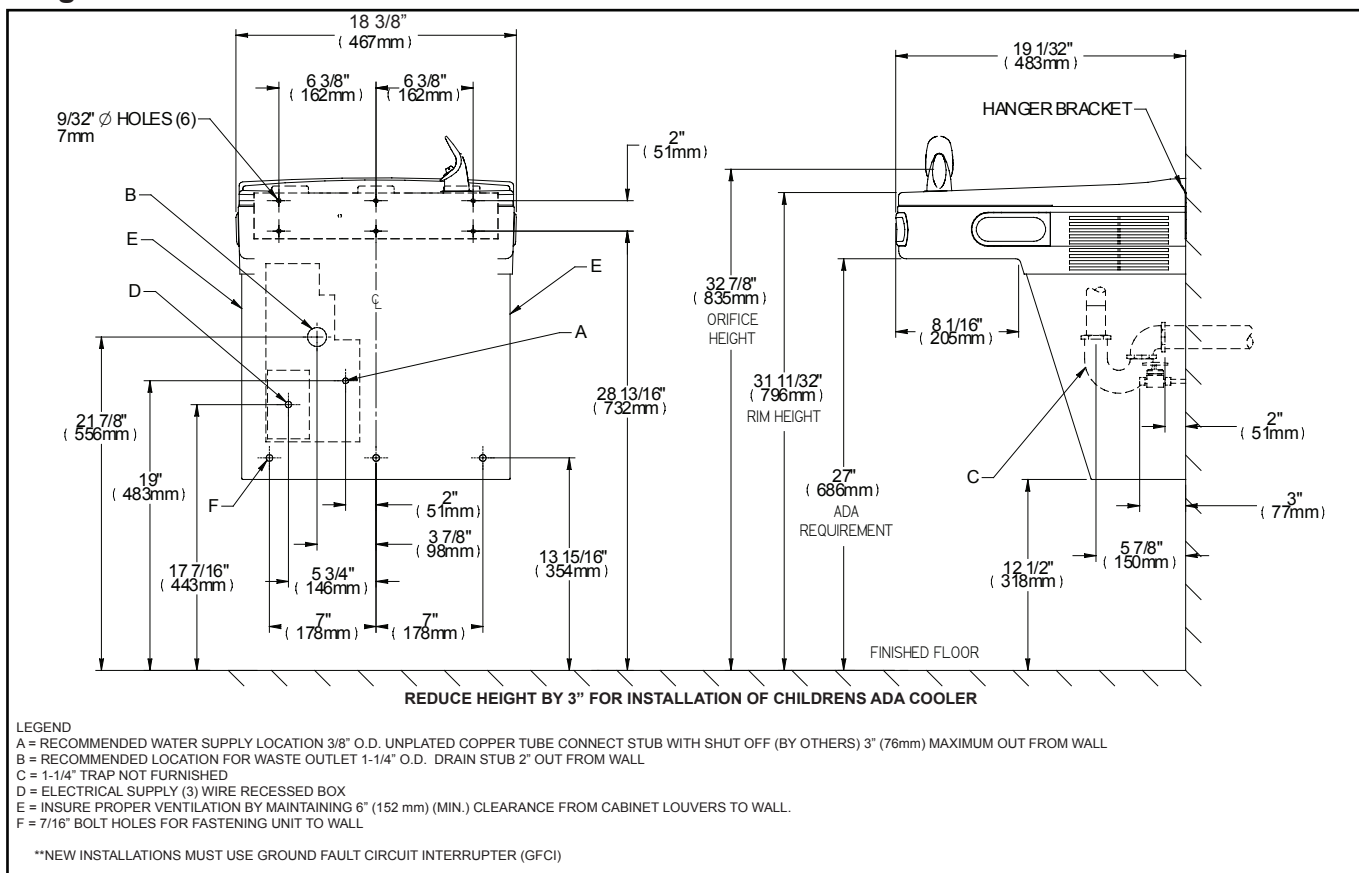

Figure 1
1. Remove Hanger Bracket fastened to back of cooler by removing one (1) screw.
2. Mount Hanger Bracket as shown in Figure 1.
- NOTE: Hanger Bracket MUST be supported securely. Add fixture support carrier if wall will not provide adequate support. Anchor hanger securely to wall using all six (6) 9/32" (7mm) diameter mounting holes.
3. Hang Cooler on the Hanger Bracket. Be certain the Hanger Bracket is engaged properly in the slots on the cooler back as shown in Figure 1,
4. Remove the four (4) screws holding the lower front panel at the bottom of cooler. Remove the front panel by pulling straight down and set aside.